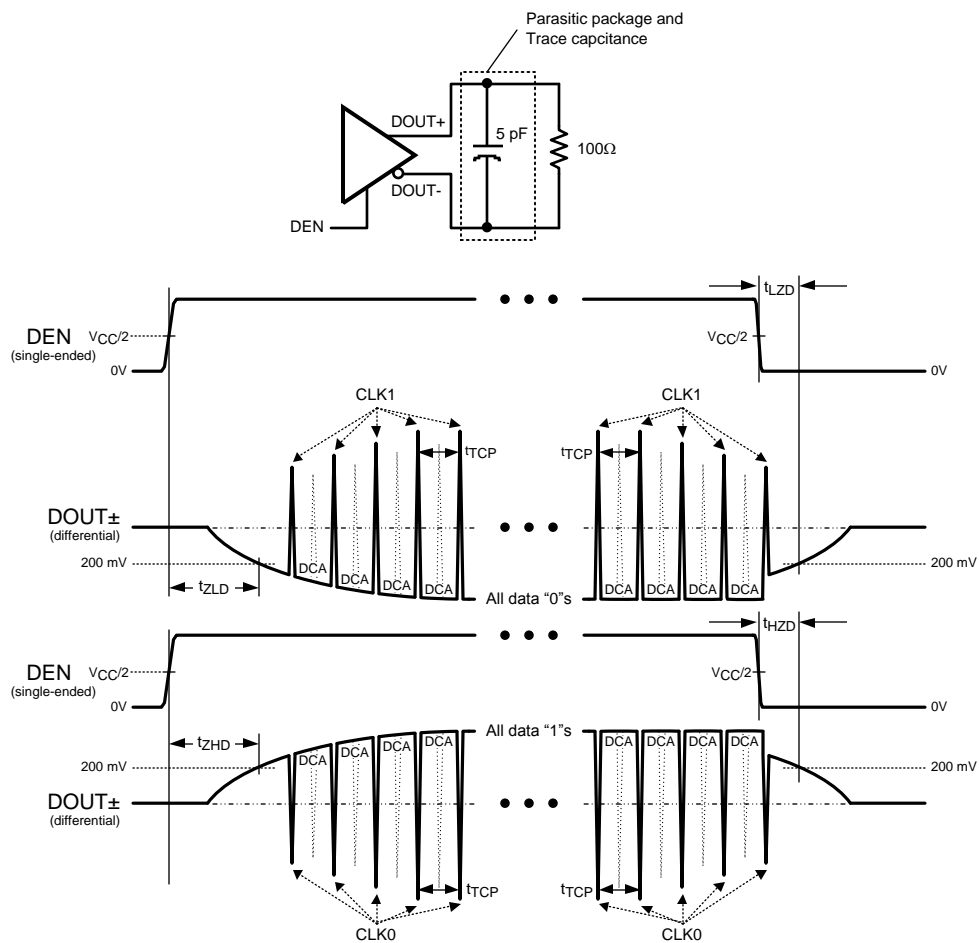

Figure 6. Serializer TRI-STATE Test Circuit and Delay
| $t_{HZD}$  | DOOUT ± HIGH to TRI-STATE Delay      | $R_L = 100\Omega$ ,$C_L = 10\text{ pF}$ to GND(Figure 6) (2) |     |             | 15        | ns                |